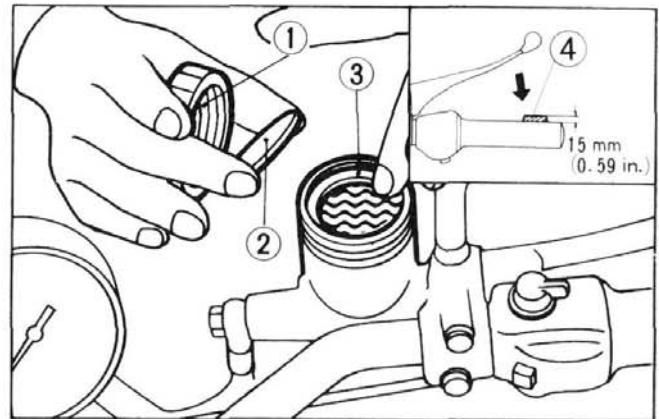

Fig. 14-14 ① Reservoir cap ③ Diaphragm
- b. Remove the reservoir cap and fill the reservoir with **DOT 3** or **SAE J1703a BRAKE FLUID**. Place the cap on the reservoir to prevent the entry of dust. (Fig. 14-14)